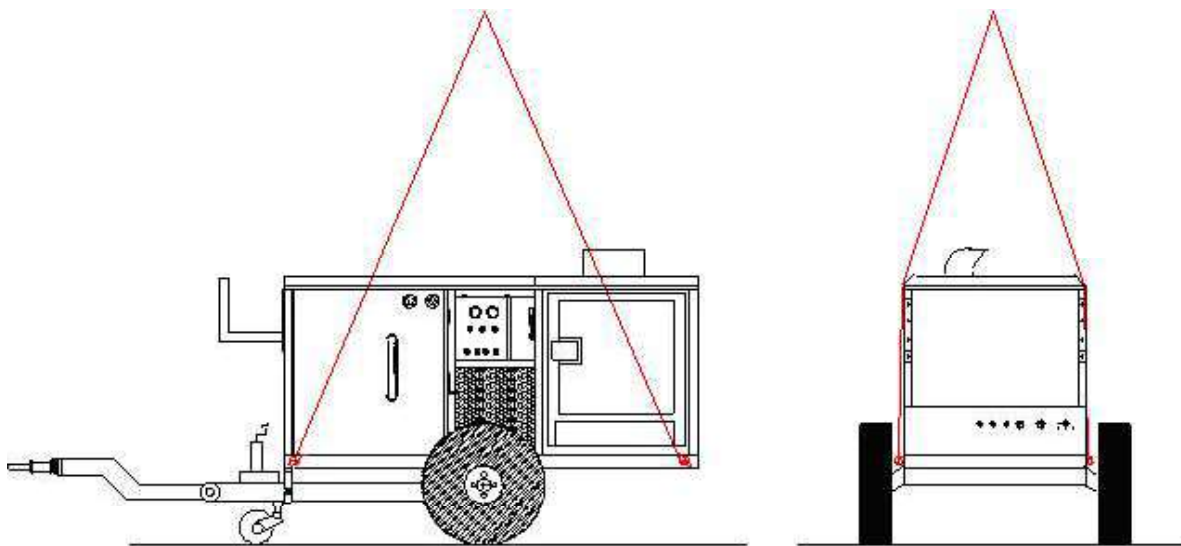
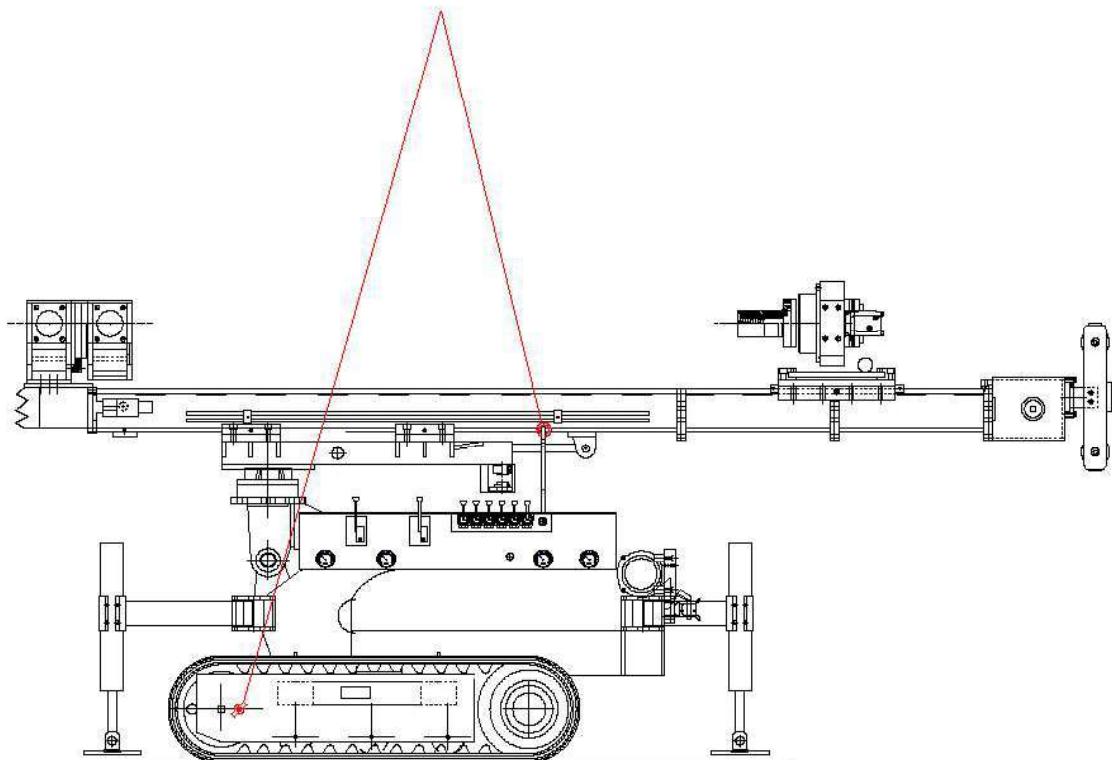

Figure 6.1: Transporting the Power Pack (*)
Figure 6.2: Transporting the Drilling Rig
- When transporting the drilling equipment and the power pack, use four straps and pass them through the rings located on the base of the power pack (Fig. 6.1) and on the drilling rig (Fig. 6.2).